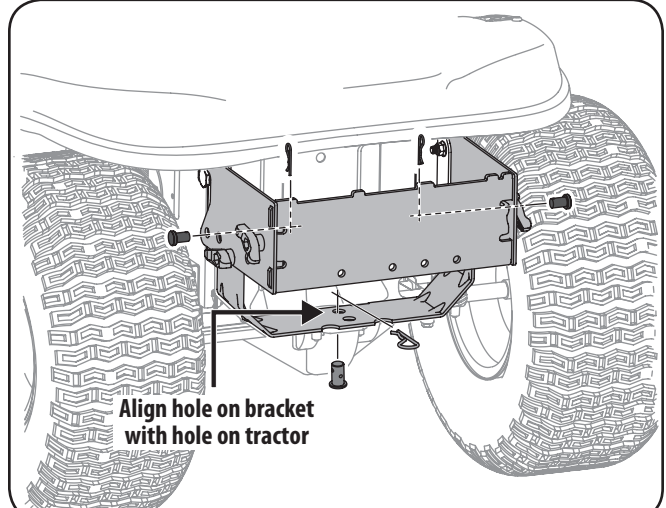

Figure 4-8
2. Install the clevis pin (711-309A) from hardware pack 689-00328A into the tractor's hitch and secure with a hairpin clip (714-0117). See Figure 4-8.
3. Install two clevis pins through the mounting assembly and secure to the 700 series mounting brackets installed earlier with click pins provided in the hardware pack. See Figure 4-8.